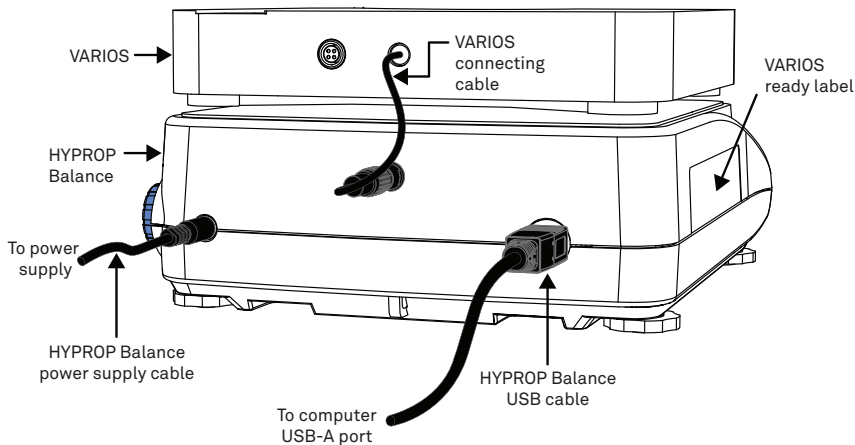
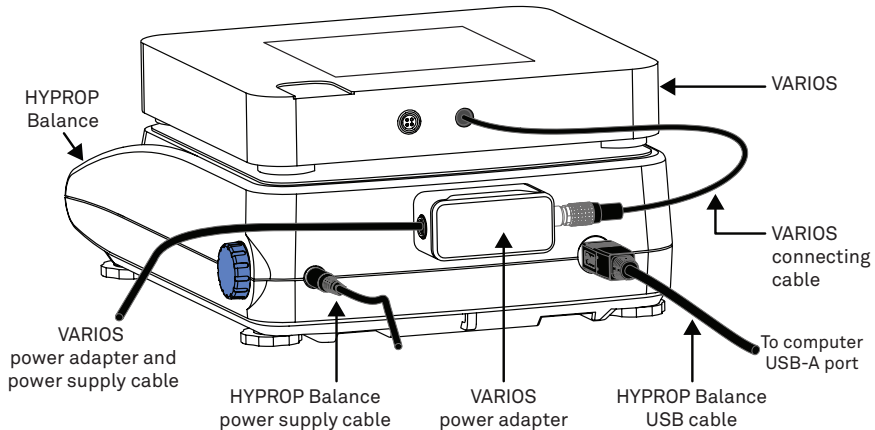

Figure 2 VARIOS Complete Set for thermal dryout configuration—back view
Figure 3 VARIOS Extension Set with VARIOS power adapter for thermal dryout configuration—back view
The VARIOS Extension Set does not include the HYPROP Balance (VARIOS ready). If this set will be used with an existing HYPROP Balance (not VARIOS ready), make sure a USB cable and power adapter with cable is included (Figure 3).
Installation	<p>Install LABROS SoilView Software and METER USB Driver Download the LABROS SoilView Software Download.</p> <p>Run the LABROS SoilView.exe file and follow the installation instructions.</p> <p>NOTE: LABROS SoilView software can only be used with Microsoft Windows 10 or newer.</p> <p>If there is a problem executing the LABROS SoilView.exe, please download and install Microsoft .NET Framework 4.8.0 manually and have the current version of the Microsoft Windows installer.</p> <p>Click on the LABROS SoilView icon to open the program.</p> <p>Connect VARIOS to HYPROP Balance (VARIOS ready) Insert the VARIOS connector cable into the back of the HYPROP Balance (Figure 2).</p> <p>Connect VARIOS to a HYPROP Balance that is not VARIOS Ready Connect the VARIOS connector cable into the VARIOS power adapter, and plug the power adapter into the HYPROP Balance (Figure 3).</p> <p>When the VARIOS is powered, a blinking white light will appear on the front of the unit. See Table 10 for more information regarding the lights and meanings.</p>
Follow the steps below to connect the VARIOS Complete Set (Figure 2).
4. Plug the VARIOS connection cable on the back of the VARIOS into the connector (Figure 2).
5. Plug the USB-B connector to the back of the VARIOS ready Balance and the USB-A connector to the computer (Figure 2).
When using an existing HYPROP Balance (that is not VARIOS ready), the Extension Set should be used. The Extension Set includes a METER power supply that plugs into the back of the Balance to provide enough power to run the VARIOS unit. Contact Customer Support for ordering information if a VARIOS power adapter is needed. Follow the steps below to connect the VARIOS Extension Set (Figure 3).